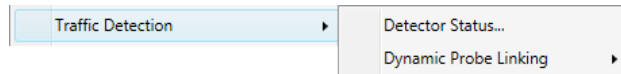

Figure 3-26 – Traffic Detection Menu
- **Traffic Detection Menu** (see Figure 3-26): This option allows the operator to view traffic conditions data; the software is described in detail in Section 3.2.18.